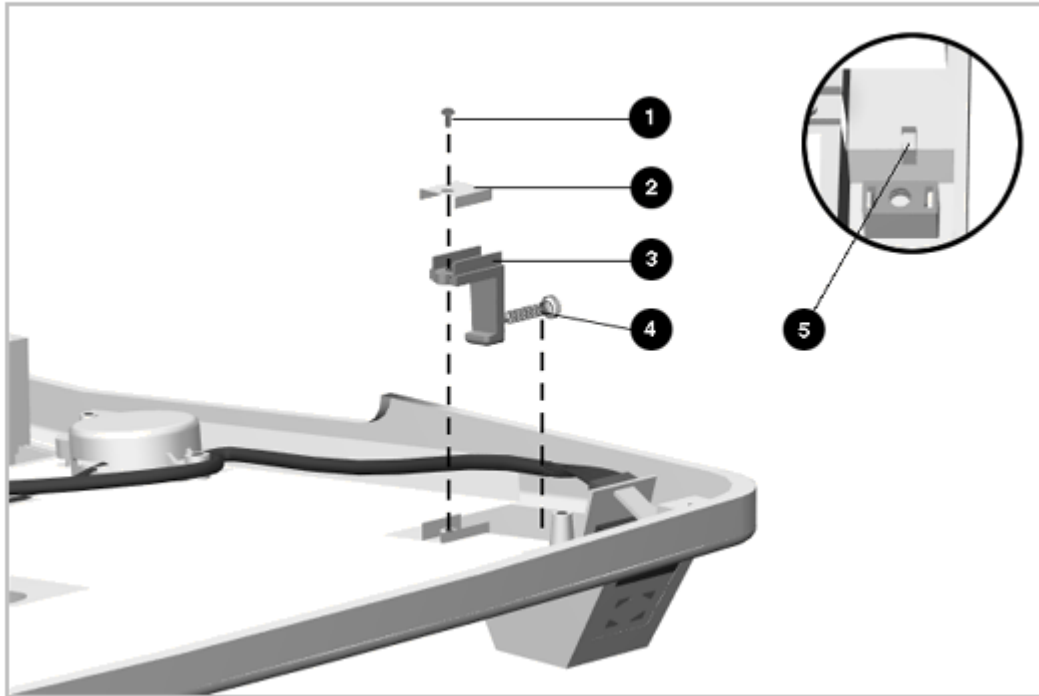

Figure 6-29. Removing the CPU Guide
3. Remove the guide screw (Figure 6-29).
4. Remove the CPU guide while guiding the spring out of its seat in the side panel of the expansion base (Figure 6-29).